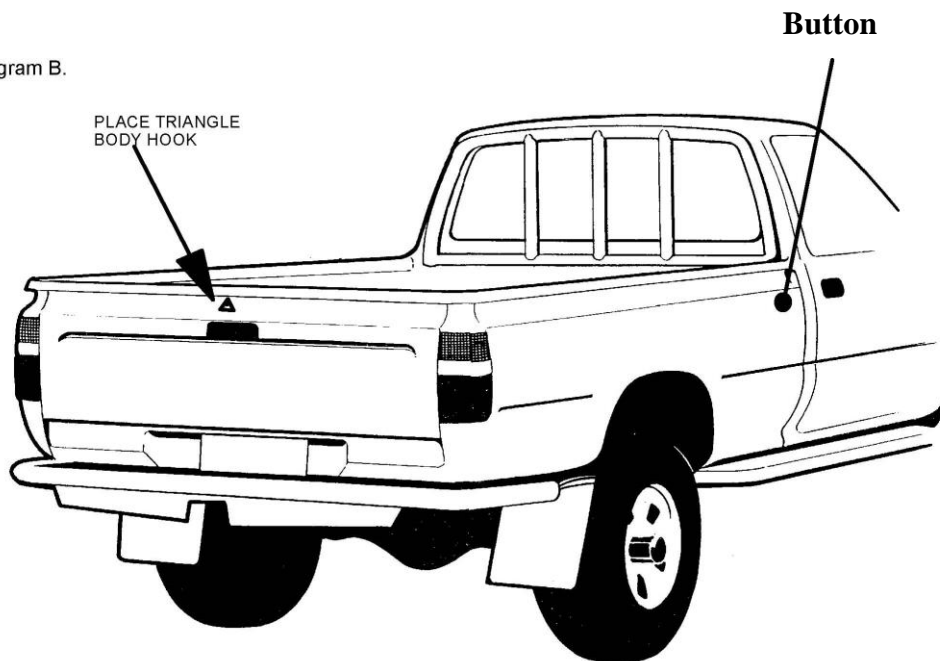

Figure 3
6. Drill and rivet triangle body hook using two rivets as shown in Figure 3. Drill and rivet round body hooks in front corners as shown in Figure 3.